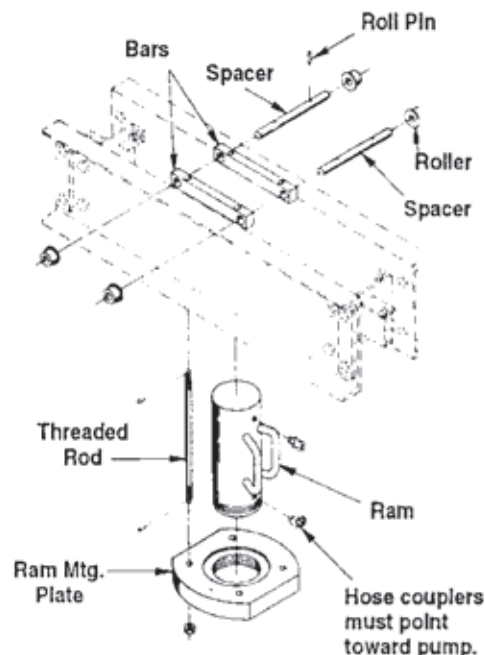
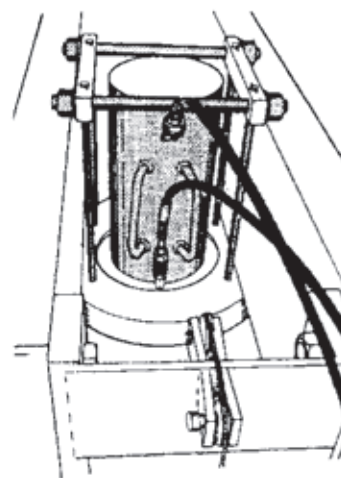

Figure 4
Figure 5
B. Thread ram into mounting plate. See Figure 4. **NOTE:** The ram handle must not interfere with the winch cable after mounting plate and ram are installed. See Figure 5. Position ram so swivel fittings point to the side of the press where the pump is mounted.
C. Assemble ram-mounting parts as shown in Figure 4, and position the assembly on the upper bolsters.